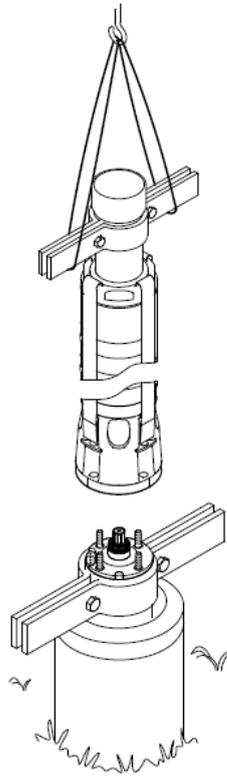

Fig. 3 Lifting the pump into position
3. Lift the pump part by means of pipe clamps fitted to the extension pipe, see fig. 3.